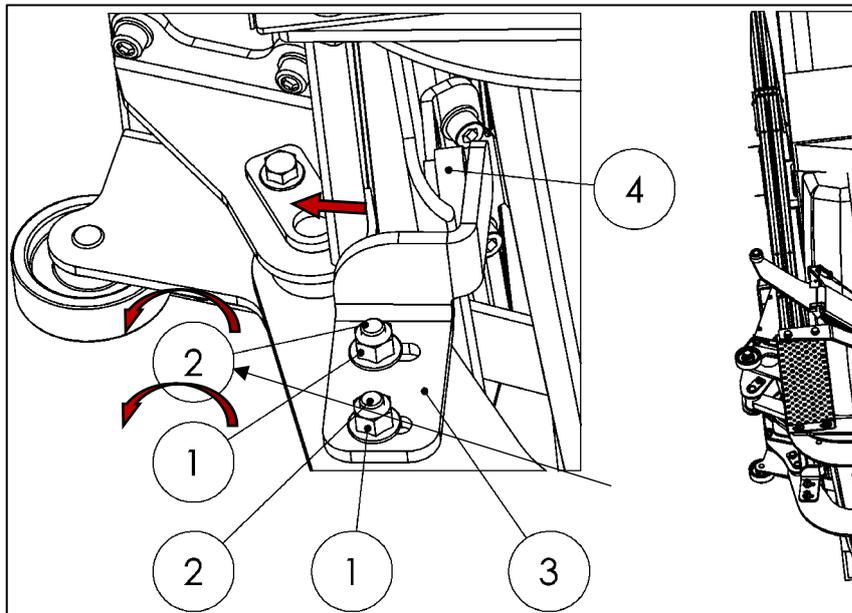

Figure 82
- Loosen the nuts (1) and bolts (2) on the stopper (3).
- Press the stopper (3) firmly against the plastic disk (4) (see Fig. 82).